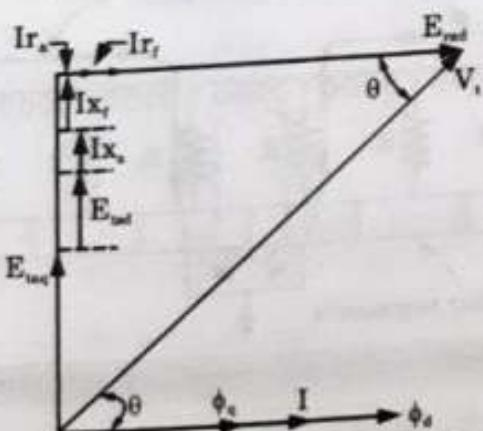

Fig. 5.6.2. Simplified phasor diagram of a single phase series motor.
2. The simplified phasor diagram is shown in Fig. 5.6.2, where the negative signs associated with E_{tsd} , E_{taq} and E_{rad} have been dropped.